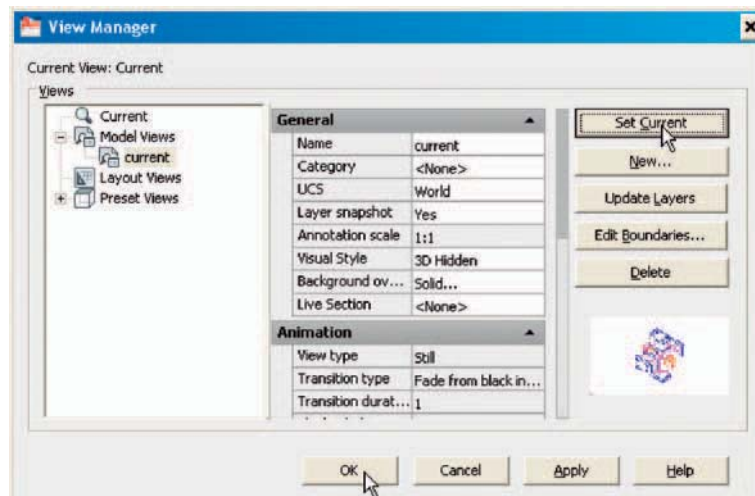

Fig. 15.23 The **View Manager** dialog reappears
6. The **View Manager** dialog reappears. *Click* the **Set Current** button, followed by a *click* on the dialog's **OK** button (Fig. 15.23).